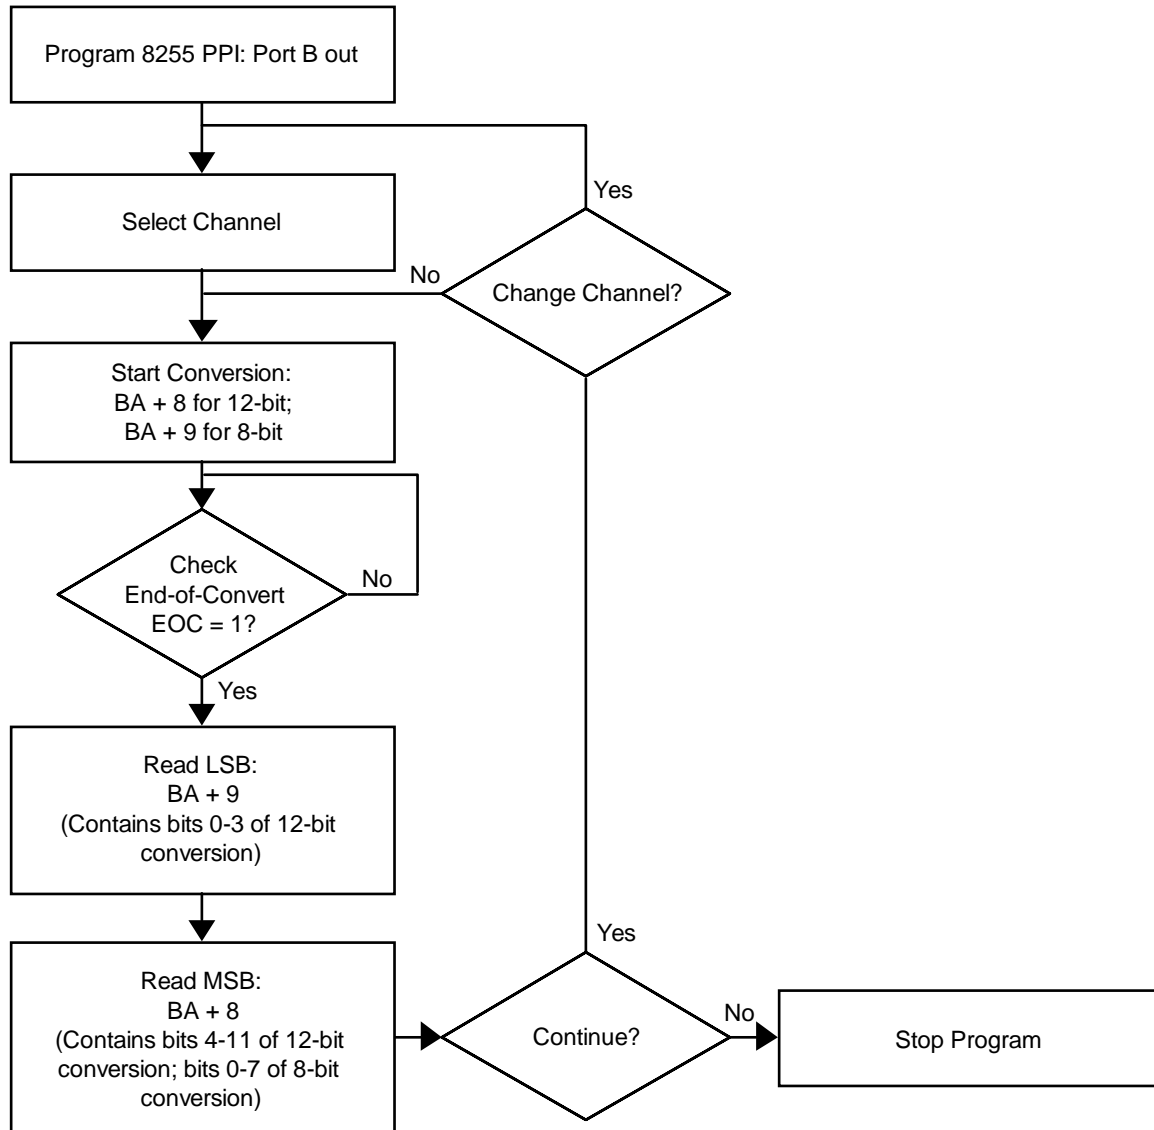

Fig. 4-3 — Single Conversion Flow Diagram
• **Single Convert Flow Diagram (Figure 4-3)**